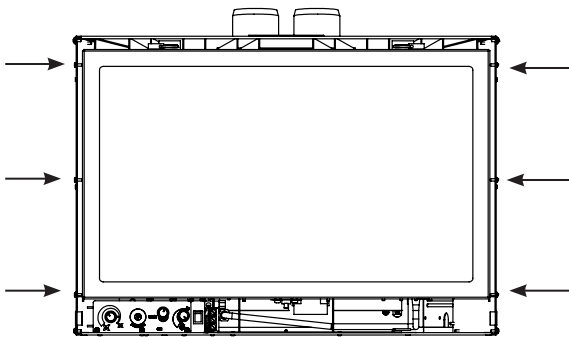
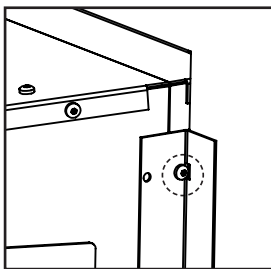

Figure 31: Screw Installation Locations.
Figure 33: Installation for Contemporary and Extruded Surrounds.
1. Install the two Trimmable Panel brackets onto the E30 unit using a T-20 Torx screwdriver. See Figures 31 and 32 for the screw installation locations. There are two sets of hole patterns on the brackets depending on which Surround Panel is being installed. See Figures 33 and 34.